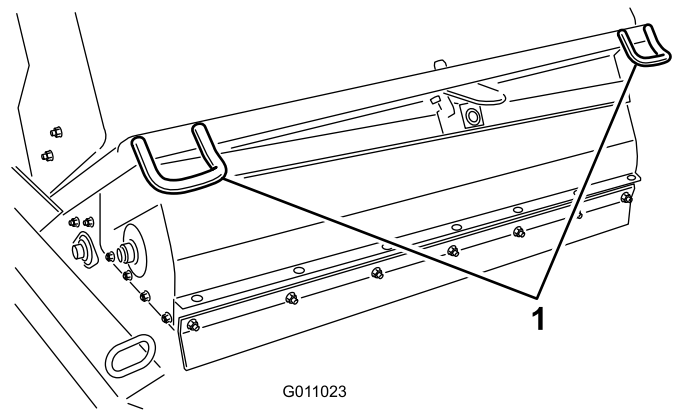
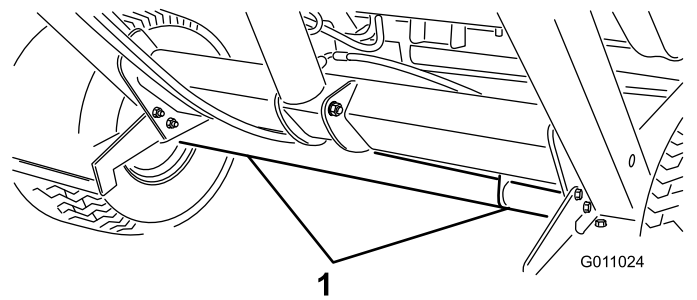

Figure 30
Figure 31
- When transporting the machine, use the tie-downs to secure the front of the machine (Figure 30) and the axle (Figure 31) to secure the rear of the machine to the trailer.